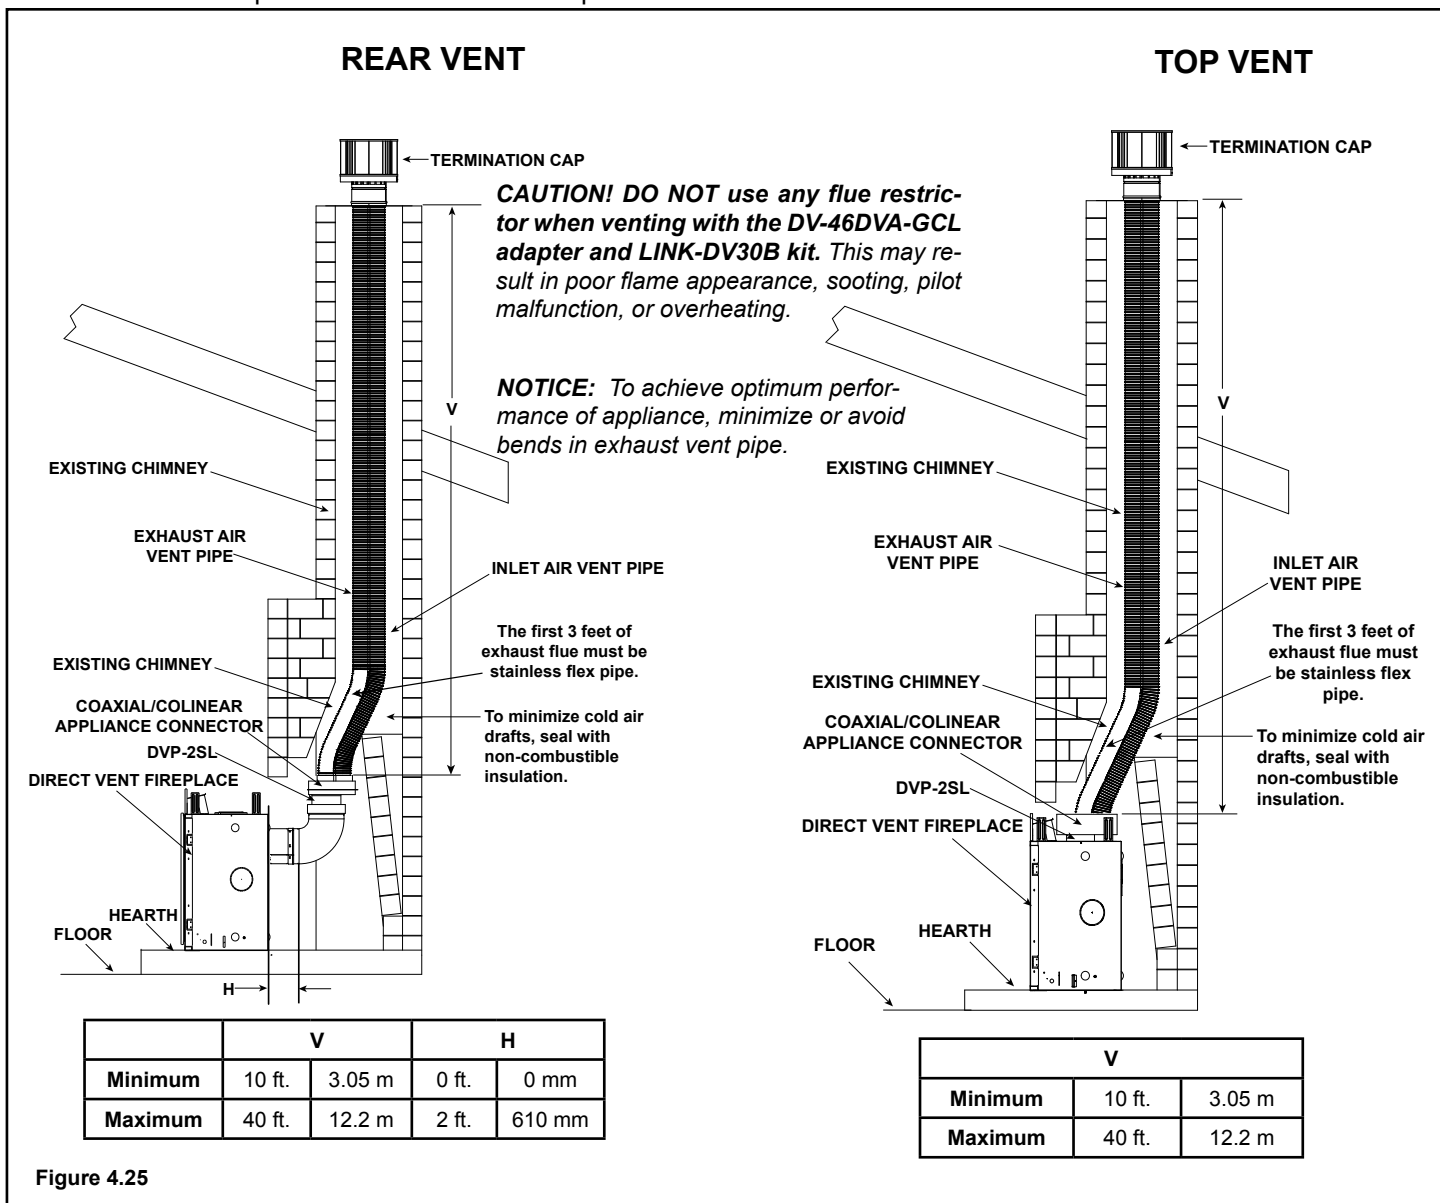

Figure 4.25
- Remove top seal cap and insulation if equipped. See Section 14, "Appliance Setup." Attach the DVP-2SL to the 8 inch starting collar. Follow installation instructions included with DVP-2SL kit. Attach the DV-46DVA-GCL adapter to the appliance starting collar with 3-1/2 in. self-tapping screws. See Figure 4.25.
- Remove the rear seal cap and insulation if equipped. Connect the DVP-2SL adapter to the vertically positioned elbow. Follow installation instructions included with DVP-2SL kit. Secure DV-46DVA-GCL adapter to DVP-2SL with 3-1/2 in. self-tapping screws. See Figure 4.25.